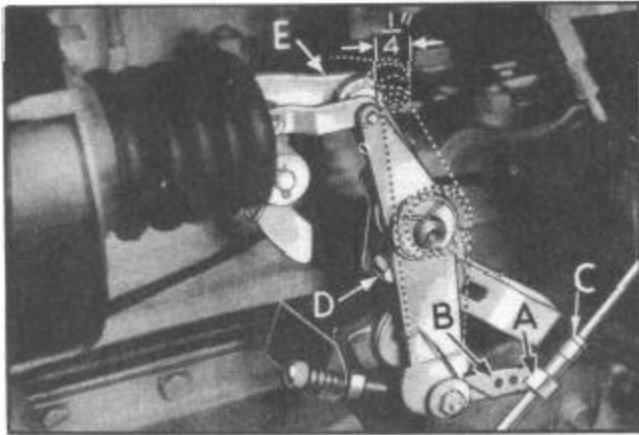

Figure 31--Piston Travel Adjustment
35. Piston travel adjustment must be made with guide block (A), Figure 31, in rear hole of cam lever (B), adjust valve lever cam threaded sleeve (C) to give maximum